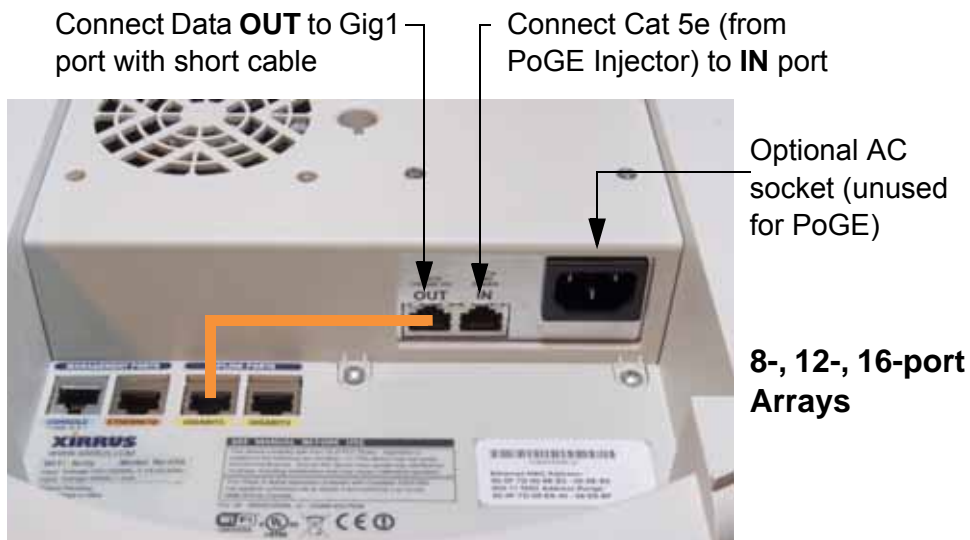

Figure 41. Connecting the Cables (PoGE—XS8/XS12/XS16)
For the XS8, XS12, or XS16, use the procedure below and refer to Figure 41. For the XS4, see “Connecting the Cables—AC Option” on page 89. All of these Array models have an integrated splitter, so an external splitter is not needed.
- Connect the Cat 5e or Cat 6 data cable coming from the PoGE injector to the Array’s Data and Power **IN** port as shown in Figure 41.
Do not connect the cable from the injector directly to a Gigabit port! It must be connected to the IN port (towards the right in Figure 41).